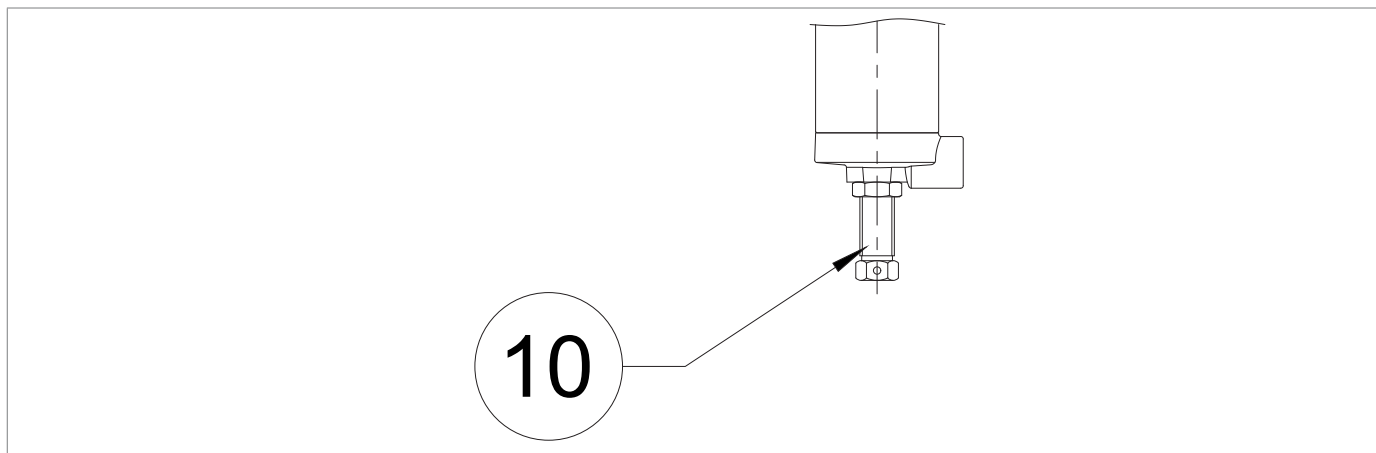

Fig. 8.30.
4	Completely relieve the pilot spring (11) by turning the adjusting screw (Fig. 8.30) anti-clockwise.
6	Turn the adjusting screw (Fig. 8.30) of the monitor pilot (11) clockwise to increase the downstream pressure value to the selected monitor operating value. ! NOTICE! Check the pressure referring to the pressure gauge (5) located upstream.
7	Turn the adjusting screw (Fig. 8.30) on the pilot (3) anti-clockwise to relieve the calibration spring until the pre-set downstream pressure value has been reached.
13	Insert and secure the adjusting screws and fixing nuts (Fig. 8.30) of the pilots (3, 11).
2	Completely unscrew the fixing nut and the adjusting screw (Fig. 8.30) of the pilots (3, 10) and the M/A accelerating valve (11).
3	Completely compress the pilot spring (3) by turning the adjusting screw (Fig. 8.30) clockwise.
4	Completely relieve the pilot spring (10) by turning the adjusting screw (Fig. 8.30) anti-clockwise.
7	<p>Slowly increase the downstream pressure by turning the adjusting screw (Fig. 8.30) of the monitor pilot (10) clockwise until the tripping pressure value for the M/A accelerating valve (11) has been reached.</p> <div style="border: 1px solid blue; padding: 5px;"> <p>! NOTICE!</p> <p>Check the pressure referring to the pressure gauge (5) located upstream.</p> </div>
9	<p>Turn the adjusting screw (Fig. 8.30) on the monitor pilot (10) anti-clockwise to decrease the downstream pressure value to the selected monitor operating value.</p> <div style="border: 1px solid black; padding: 5px;"> <p>! NOTICE!</p> <ul style="list-style-type: none"> • Ensuring that the M/A accelerating valve (11) has interrupted the gas discharge; • Check the pressure referring to the pressure gauge (5) located upstream. </div>
10	<p>Turn the adjusting screw (Fig. 8.30) on the pilot (3) anti-clockwise to relieve the calibration spring until the pre-set downstream pressure value has been reached.</p> <div style="border: 1px solid black; padding: 5px;"> <p>! NOTICE!</p> <p>Check the pressure referring to the pressure gauge (5) located upstream.</p> </div>
16	<p>Insert and secure the adjusting screws and fixing nuts (Fig. 8.30) of the pilots (3, 10) and the M/A accelerating valve (11).</p>
2	Completely unscrew the fixing nut (Fig. 8.30) of the pilot screw (3).
3	Completely relieve the pilot spring (3) by turning the adjusting screw (fig. 8.30) anti-clockwise.